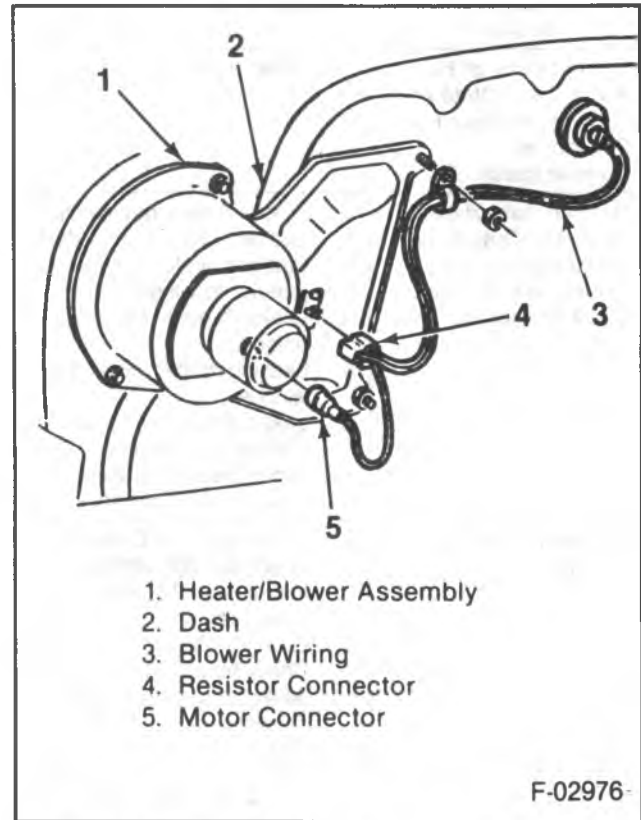

Figure 5 — Blower Motor Assembly Wiring R/V
Remove or Disconnect (Figures 5 and 6)
2. Blower motor wiring harness (3) (figure 5).
Install or Connect (Figures 5 and 6)